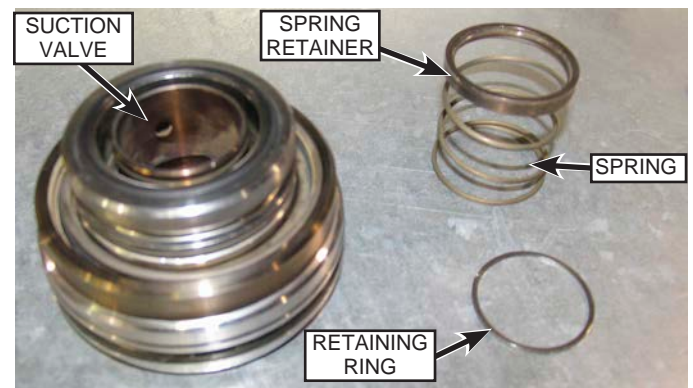

Fig. 92: Retainer and Spring Removal
4. Remove the valve spring retainer and valve spring. Refer to Fig. 92.